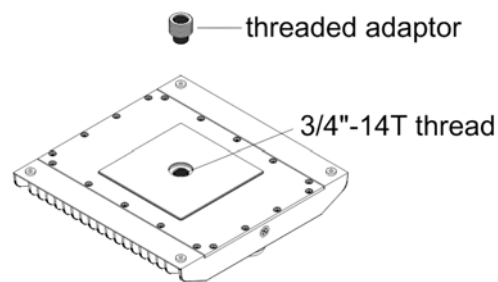

Fig. 5
2. Remove the threaded adaptor from the back of fixture. See Fig. 5. Connect the wiring to line wires, black-black, white-white and green-green.